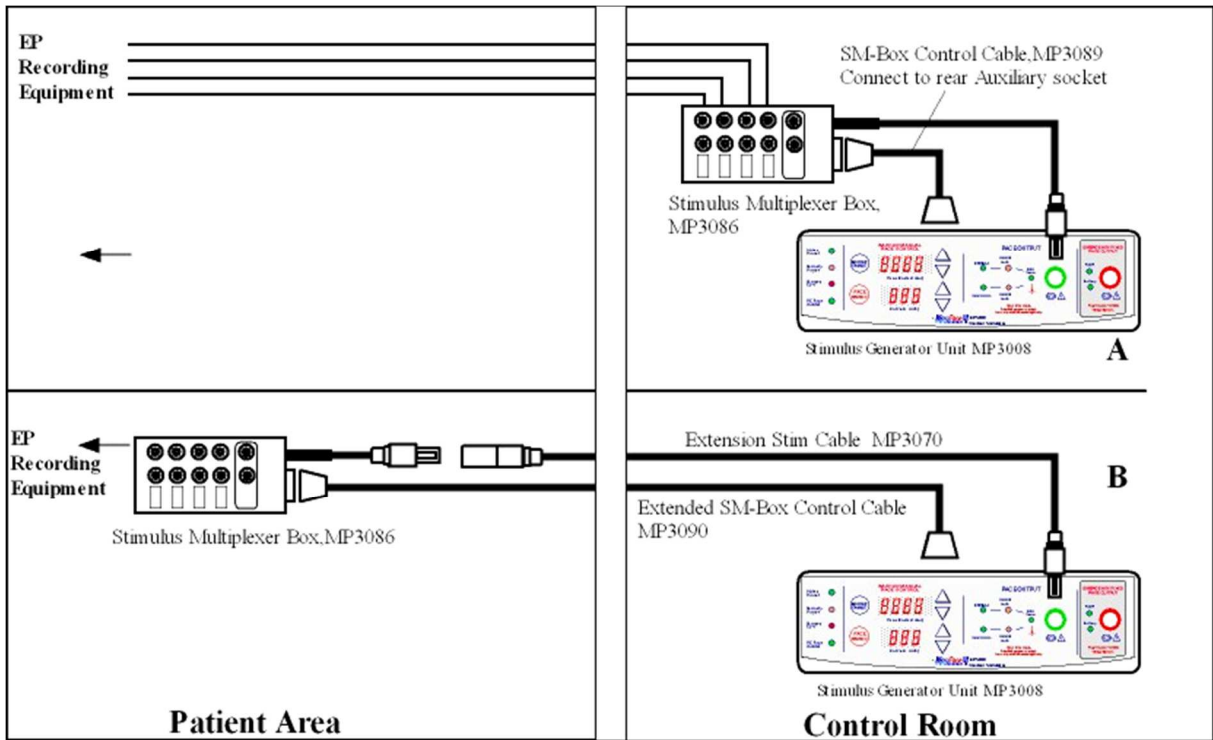

Figure 2 Interconnecting the SM-Box
1. If installing the SM Box near the EPS320, (i) connect the SM Box to SGU's green Stim Output socket on the front, and (ii) to the Auxiliary Port at the rear using the SM-Box Control Cable - MP3089. Refer to Figure 2.
Connect Stimulus Multiplexer Box (SM-Box) to the Stimulus Generator Unit (SGU) as shown in Figure 2. Insert the green four pin plug into the green stimulus output socket on the front of the SGU and use the SM-Box Control Cable (MP3089) to interconnect the 15 pin socket on the SM-Box to the 15 pin Auxiliary Port on the rear of the SGU. Ensure connectors are attached and secured with jackscrews.